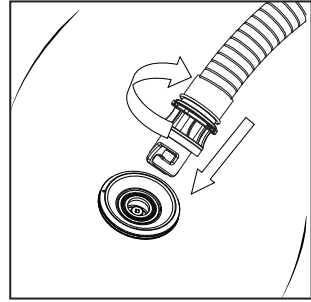

Figure 2
- Install the other end of the hose with the matching adapter of the valve (Figure 2) and turn it clockwise to tighten. Then insert the inflation valve and turn it clockwise to tighten (step in Figure 2).